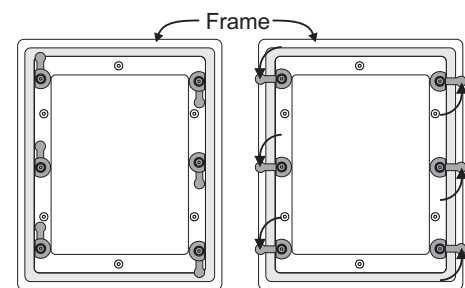

fig.4
6. After the drywall is complete, install the frame. The frame attaches to the bracket via six plastic mounting clamps on the back of the frame that swivel to "sandwich" the drywall between the speaker assembly and the clamps (**fig.4**). First rotate the mounting clamps inward so that the body of the frame can slide through the mounting bracket. Tighten the screws snugly, making sure not to over tighten, as this may compromise the fit of the frame. The gasket on the drywall side of the speaker assembly lip reduces unwanted vibrations against the drywall and will compress slightly to allow the frames lip to rest flush against the ceiling. The spring loaded mounting clamps provide tension once installed.